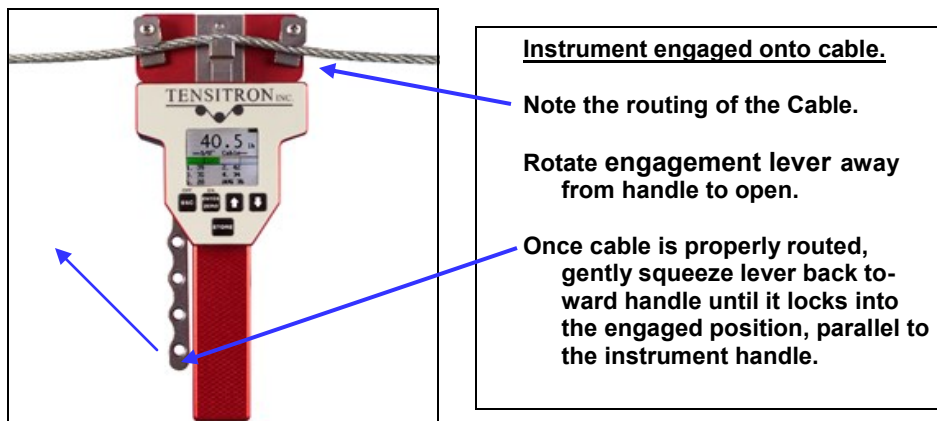

Figure 4
8. **ENGAGE INSTRUMENT ONTO CABLE** by first rotating the engagement lever away from the instrument, raising the outer cable contact guides. Next, route your material/cable so that it runs beneath the outer cable contact guides and over (on top of) the center contact point (sensor). Then rotate/squeeze the engagement lever shut until it locks into position, parallel with the instrument handle. Note tension reading. *Figure 4*